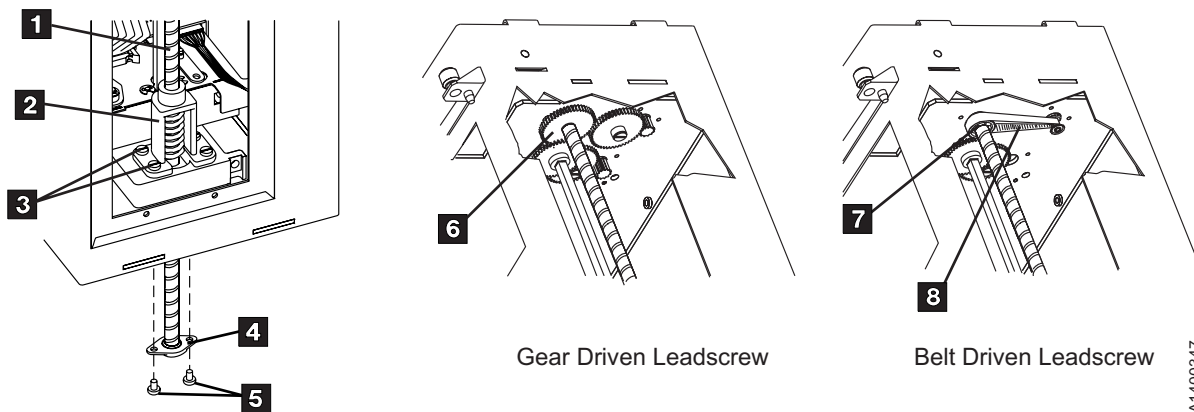
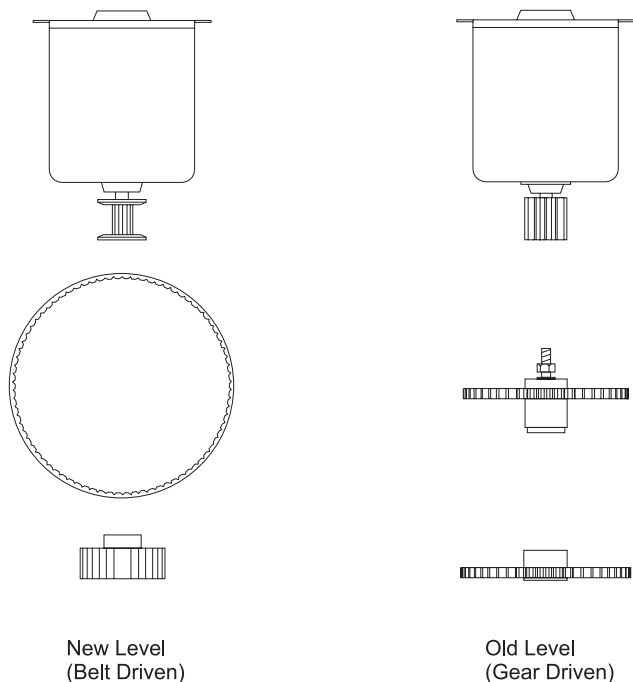

Figure 10-13. Gear-driven and Belt-driven Leadscrew
Figure 10-15. Differentiating Between Former Level and Current Level Elevator Motor
There are two levels of leadscrew drive. See Figure 10-13 on page 10-21 and Figure 10-15 on page 10-22. The former level uses a gear-driven leadscrew **6** and the current level uses a belt-driven leadscrew **7** and **8**.
5. See Figure 10-13 on page 10-21. Remove the two screws **5** from the lower leadscrew bearing and remove the bearing **4** from the leadscrew.
Figure 10-15 shows the differences between the former level and current level elevator motor assemblies.